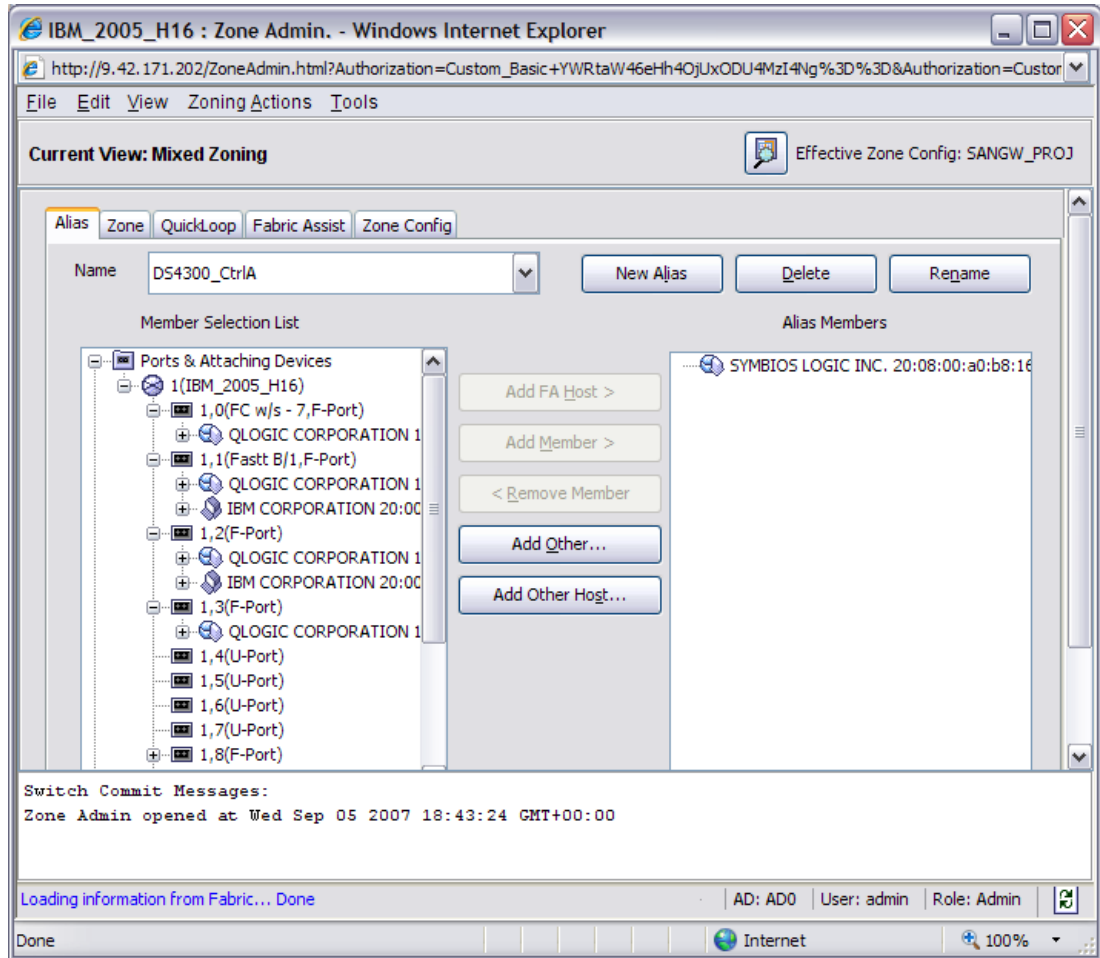

Figure 3-46 Initial stage setup on defining the alias name
1. Define the zoning of each blade server that you intend to have in the MSCS environment. Figure 3-46 on page 61 shows the initial zoning stage.